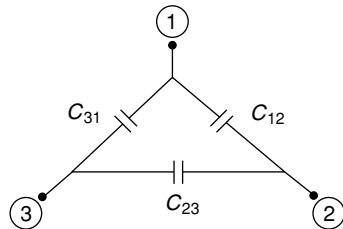

Fig. 1.50 Delta-connected capacitors (Ex. 1.49)
1.49 Three delta connected capacitors are set to form a unit as shown in Fig. 1.50. It is required to transform the delta unit to equivalent star. Find these star capacitances for equal capacitances between similar terminals in both the connections.